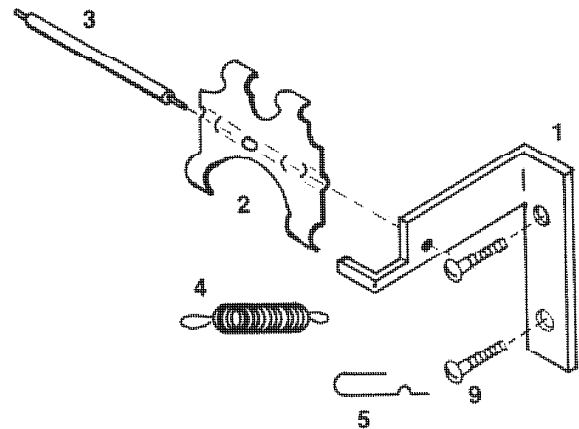

Figure 2
2. Install parts 1 - 4 shown in Figure 2 in the conventional manner as on the Cycl-Flex timer.